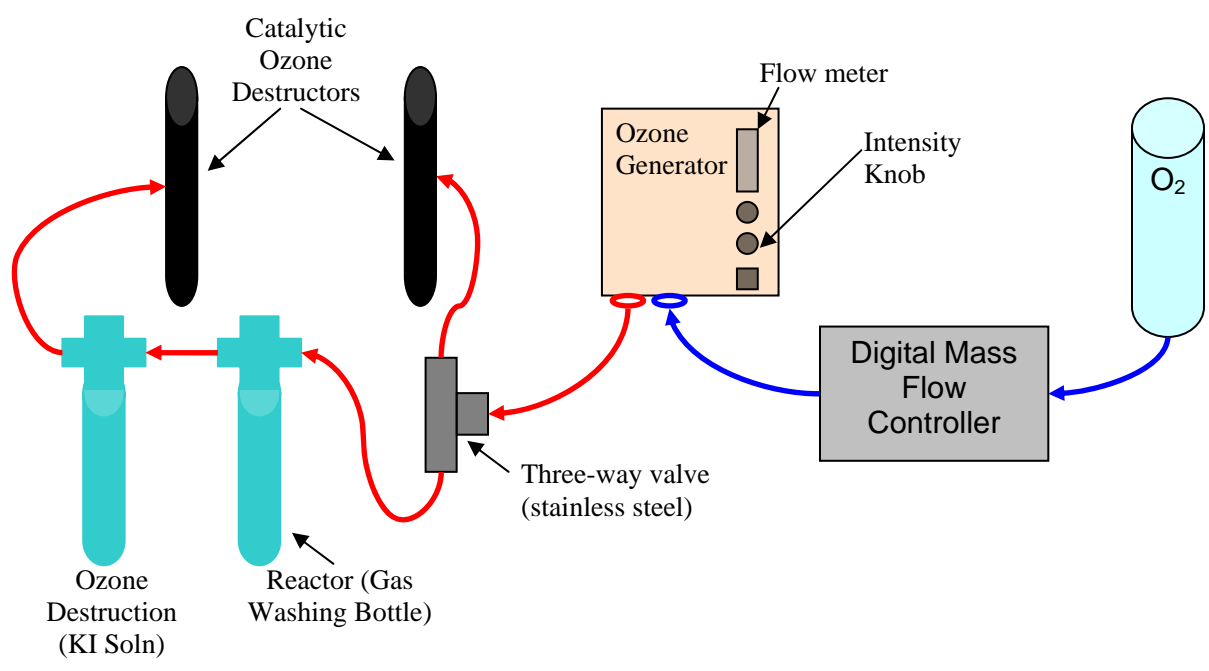

Figure 1. Schematic Diagram of Ozone Generation and Reactor System
Laboratory ozone systems for water treatment are complex because ozone gas is generated from oxygen through an electrolytic process and passed into the water phase through a gas transfer process. Because ozone is so reactive in water (including self-decomposition), the ozone transfer is not measured in the liquid phase. Instead, one monitors the amount of ozone produced and transferred into water by using a gas phase mass controller on the influent side and the amount remaining in the gas phase after passing through the reactor. The last step is done by reducing the ozone in a potassium iodide (KI) solution and measuring the difference in iodide concentration before and after. A schematic diagram of the apparatus that we have assembled in the laboratory is shown in Figure 1. There is a steep learning curve in getting all these pieces working together, and we are making progress in accomplishing these tasks.